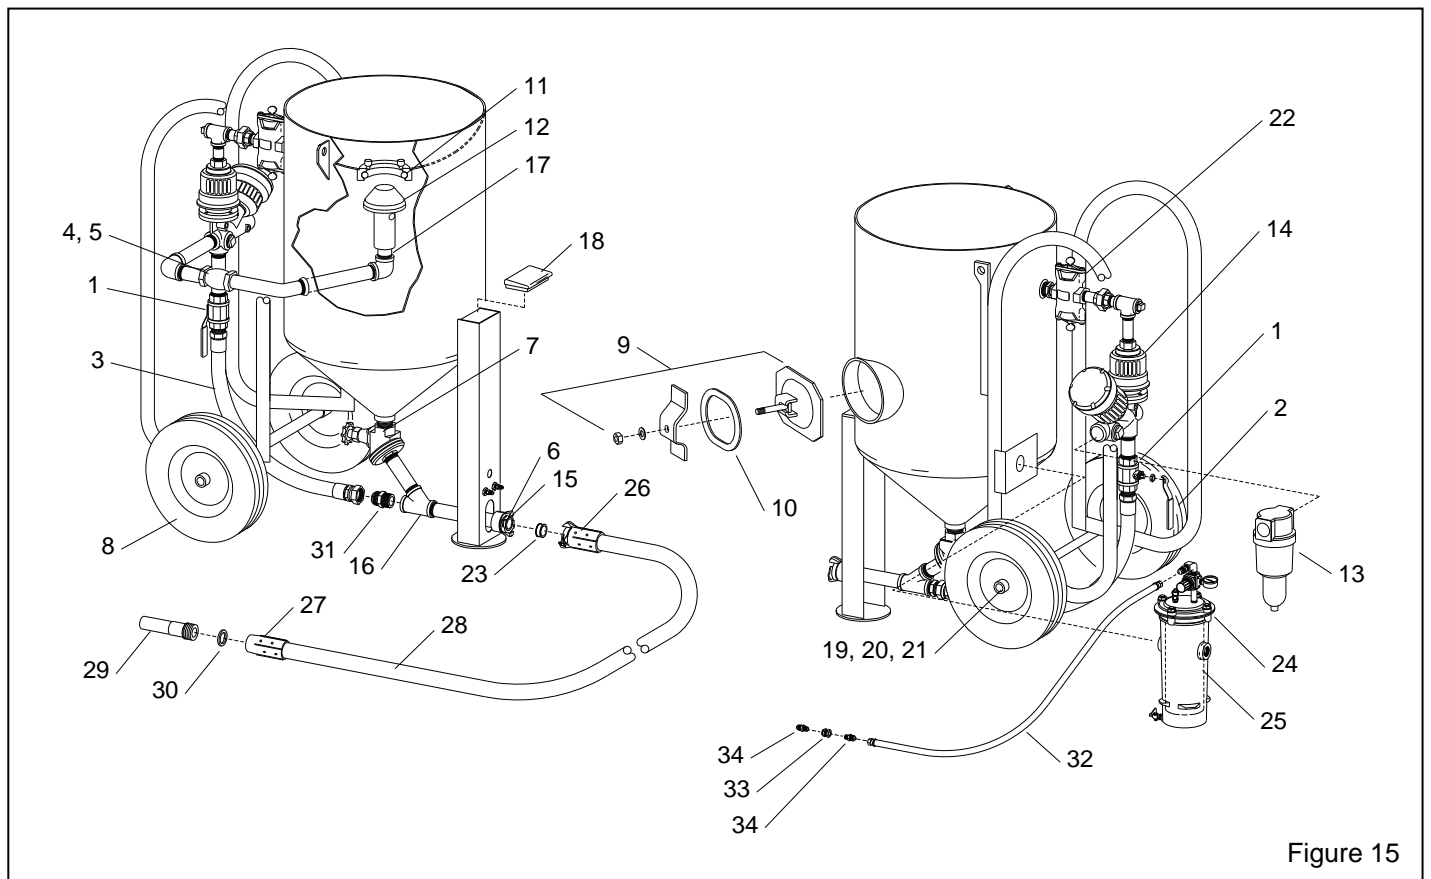

Figure 15
**8.2 Blast Machine, Figure 15**